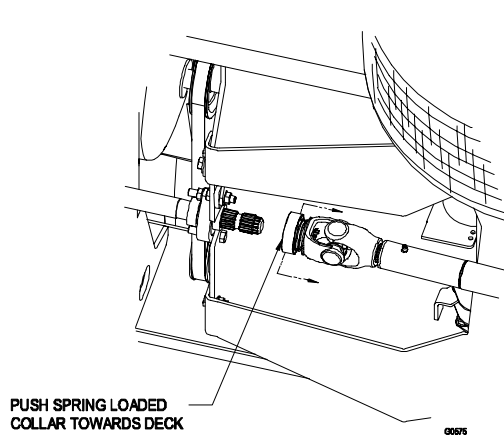

FIGURE 5
- 3.1.12 Connect the drive shaft by pushing back the spring loaded collar. Align and couple drive shaft to splined drive shaft and release collar. (See Figure 5)
- 3.2.2 Disconnect the drive shaft by pulling back on the spring loaded collar and pulling away from the splined shaft (See Figure 5). Lay the drive shaft on the ground.